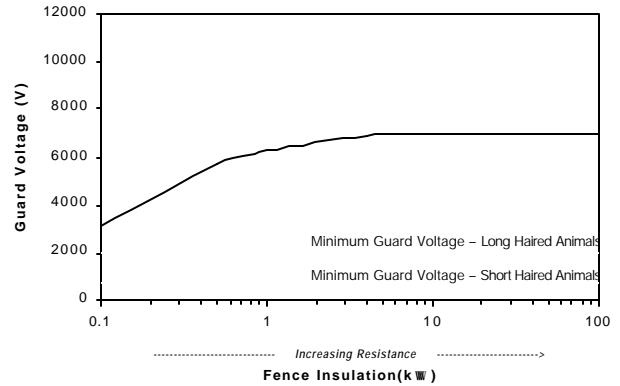

Figure 2. Guard Voltage for 3.3 mile (5.4 km) Fence.
**Shock Delivery:** **Figures 2 and 3** show guard voltage outputs of the Baygard 1500 for 3.3 and 10 mile (5.4 and 16 km) lengths of single wire fence over a range of resistances. **Table 4** provides the guard voltages at the "weeded" and "clean" fence conditions. Guard voltage values for other fence conditions are given in **Appendix II**. The higher the guard voltage the higher the shock delivered to the animal.
As can be seen from **Figures 2 and 3**, low resistance did not appreciably affect the shock delivery as the voltage output was above 2,000 V for all fence conditions. Thus, the Baygard 1500 can be expected to deliver shock over a wide range of fence conditions.